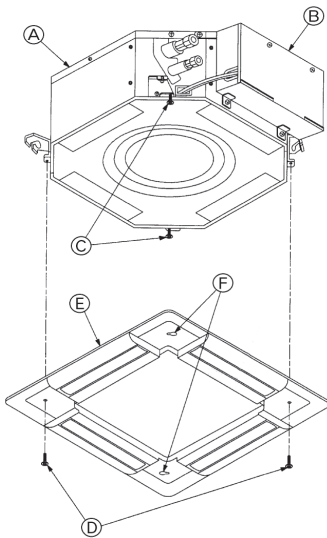

Fig. 7-6
7.3.2. Temporary installation of the grille (Fig. 7-6)